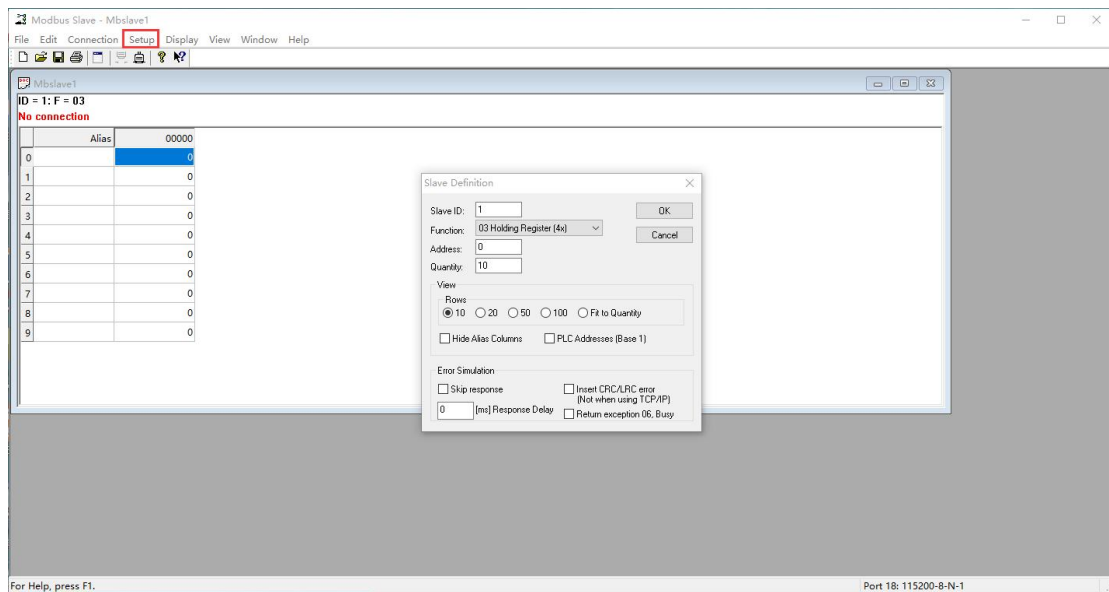

Figure 6-32 Slave software MODBUS protocol settings
5) Open the "Modbus Slave" tool, the MODBUS protocol setting is the same as "Modbus Poll", and select the function. Code 3, as shown in Figure 6-32.